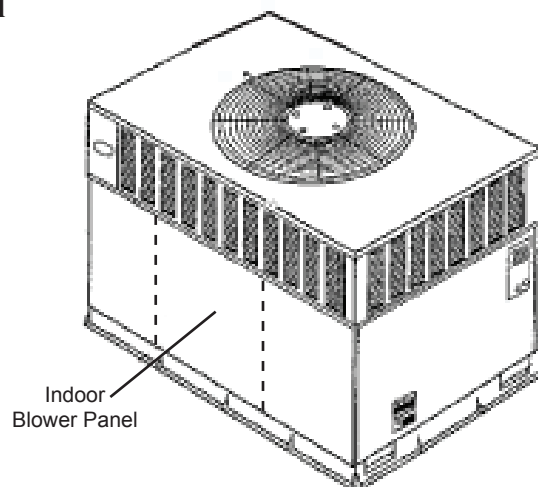

Fig. 11 - Indoor Blower Panel
6. Remove the panel on the HVAC unit covering the indoor blower. See Fig. 11. The (provided) Supply Air Temperature (SAT) sensor, which looks like an eyelet terminal, must be installed in the blower section. Attach the (2) pink wires from the economizer harness (or extension harness) to the SAT.